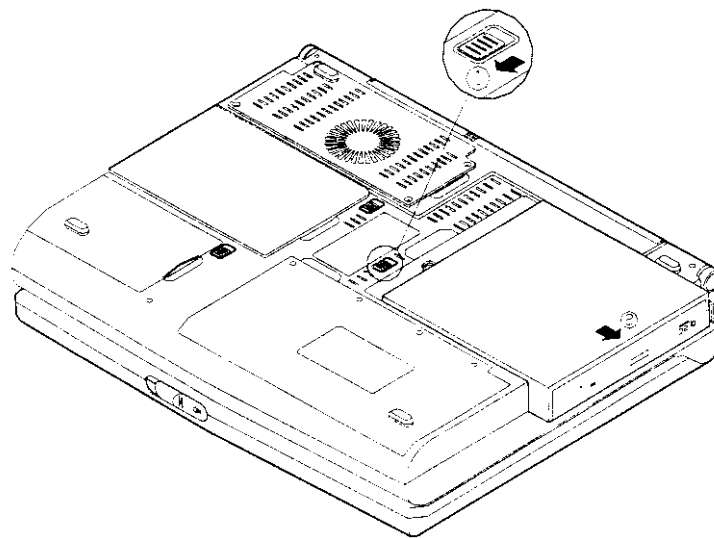

Figure 2-13
4. Press the latch in the direction indicated and slide the CD-ROM module out of the Notebook (Figure 2-13).